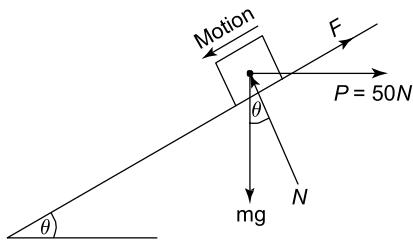

Figure 16.12
The primary forces for this problem are shown in Figure 16.12, where it can be seen that F is opposite to the direction of motion.
11. Determine the value for θ which will just cause motion down the plane, when $P = 250 \text{ N}$ and acts in the direction shown in Figure 16.12. It should be noted that in this problem, motion is down the plane, $\mu = 0.5$ and $m = 50 \text{ kg}$. $[\theta = 53.58^\circ]$